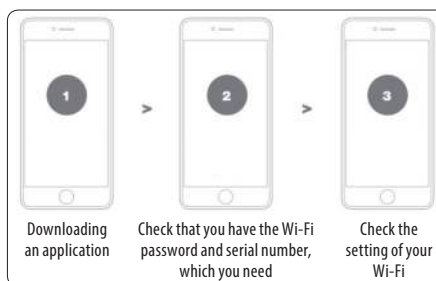

Figures Q1
- (1) The latest software version can be found at the address: www.sk-robot.com. Save the file on to an empty USB flash disk formatted to FAT32. Remove all other files on this disk and check the file system format. If this disk is not formatted to FAT32, please reformat it.
- (2) Place the lawnmower on a safe and even surface. To turn on the lawnmower, press button .
- (3) Insert the USB flash disk into the port. (see fig. Q1)
- (4) Turn on the mower. The update will start automatically. Wait until USB is no longer shown on the display, then remove the USB flash disk and properly close the protective cover.
- (5) The manual supplied with your lawnmower is backed up with the default software that was used at the time of manufacture. Certain new features/functions in the new version may not be described in this user's manual.